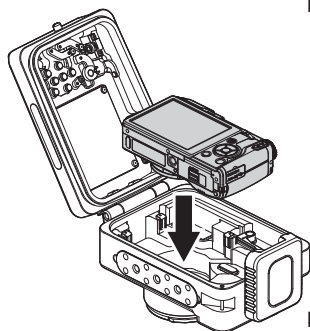

Fig.3
- 2 Turn off the power of the camera and place it as shown in Fig.3